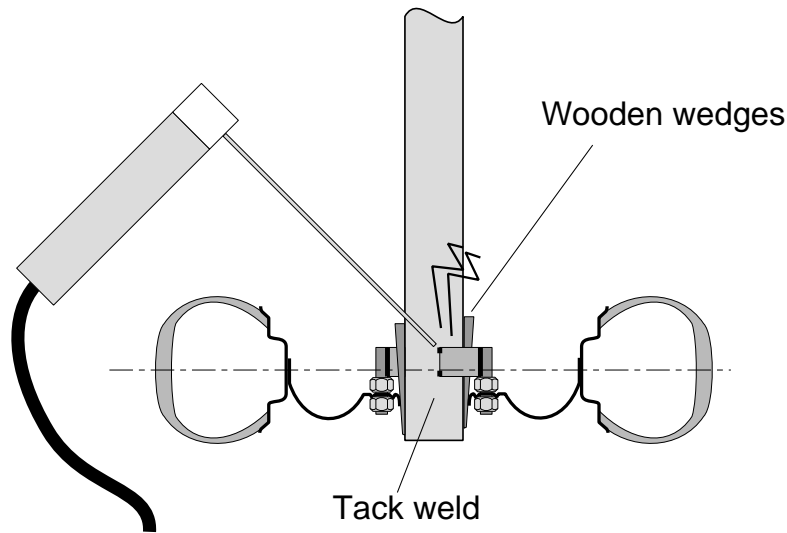

Figure 9: tyre, wheel and axle tube during tack welding stud support struts
- 5) Once you have it in position, tack weld the ends of the struts to the axle tube as shown in Figure 9. (As Figure 9